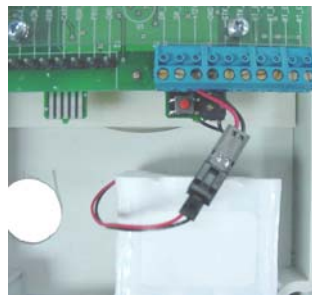

Figure 10-5 – New Battery Pack Installed
- 9.3.3 Install the Battery Pack into the Transceiver Control Module enclosure using the Velcro provided AND connect the Battery Pack Connector to its mating connector that is factory connected to J4 (Figure 10-5).
- 9.3.4 To continue to use the WSM on the same RF channel and with the same WPIM, make certain that no WPIMs are in the Link Mode, then press and release the WSM Reset Switch located below and to the left side of J4 (Figure 10-5). This insures that the WSM has started properly. Re-install the WSM cover, making certain that no wires are pinched. The cover should go on easy with no interferences. Replace the 4 cover screws, one in each corner (Figure 10-1).